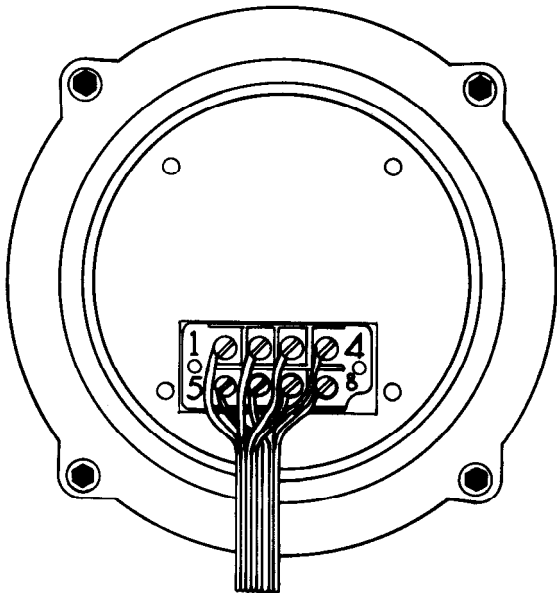

FIG. 4: ROTATOR WIRING
- C. With the control unit and the rotator on the work table, connect the cable between the rotator and control unit using the full length of cable that will be used in the installation. **IT IS IMPORTANT THAT #1 TERMINAL ON THE ROTATOR IS CONNECTED TO THE #1 TERMINAL ON THE CONTROL UNIT AND SO ON. NOTE:** The specifications call for **HEAVIER** gauge wire in two locations. **LEADS #1 and #2 must be HEAVIER GAUGE and less total lead resistance** (See specifications Page 11). Wire the control to the rotator as shown in figures 4 and 5.